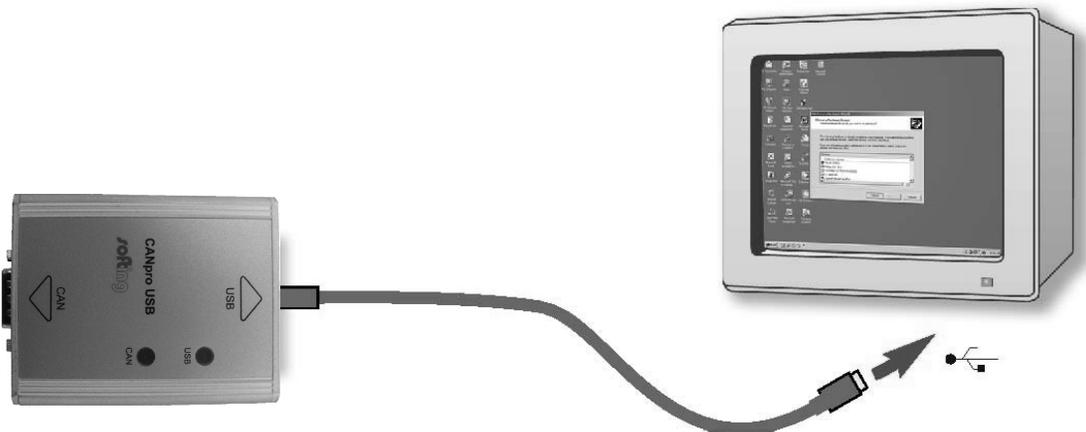

Figure 10 CANProUSB Interface Connection
12. See Figure 10. **Connect** the USB cable from the PC to the CANproUSB interface.